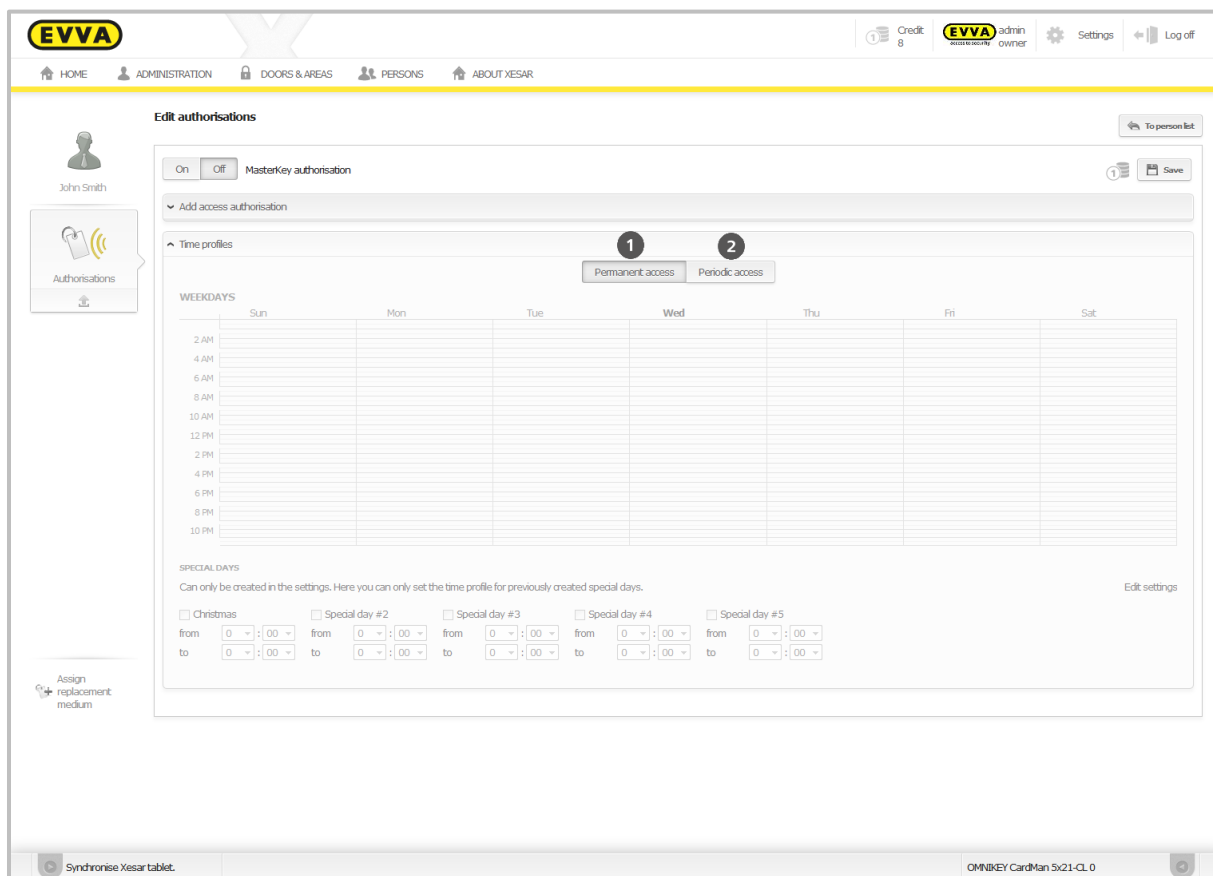

Figure 108: Specifying personal access authorisations
The **Time profiles** setting enables to assign an unrestricted time profile or a time-based profile to selected persons. Proceed as follows to specify **Permanent access ①** or personal **Periodic access ②** (Figure 108: Specifying personal access authorisations):